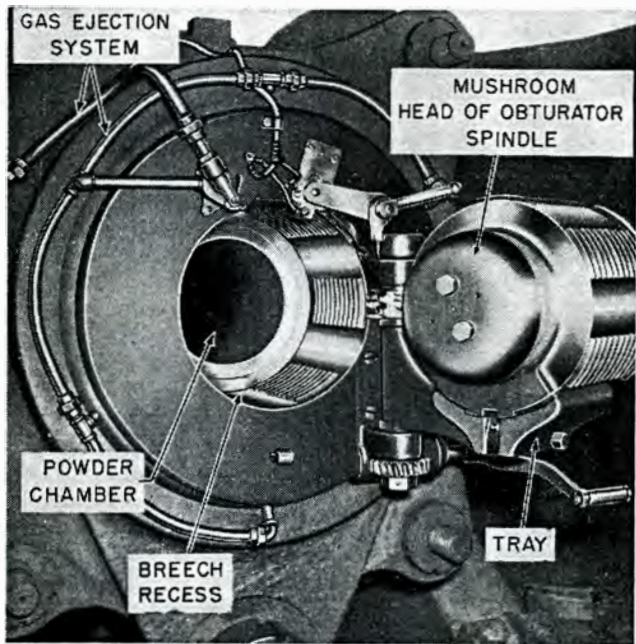

Figure 4. Breech of the gun, breechblock open.
b. Condition, serviceability, and operation of the firing mechanism (fig. 8), breech mechanism (figs. 4, 5, 6, and 7), and rammer (fig. 12).
16. BREECH DETAIL. The breech detail, Nos. 1 to 6, is charged with the duties of loading the gun. Each cannoneer is responsible to the chief of breech for the proper and precise execution of the duties outlined in the drill table, appendix III. Each cannoneer is responsible for the care, adjustment, and operation of the mechanism and equipment (figs. 4, 5, 6, 7, 8, and 12) with which he works.